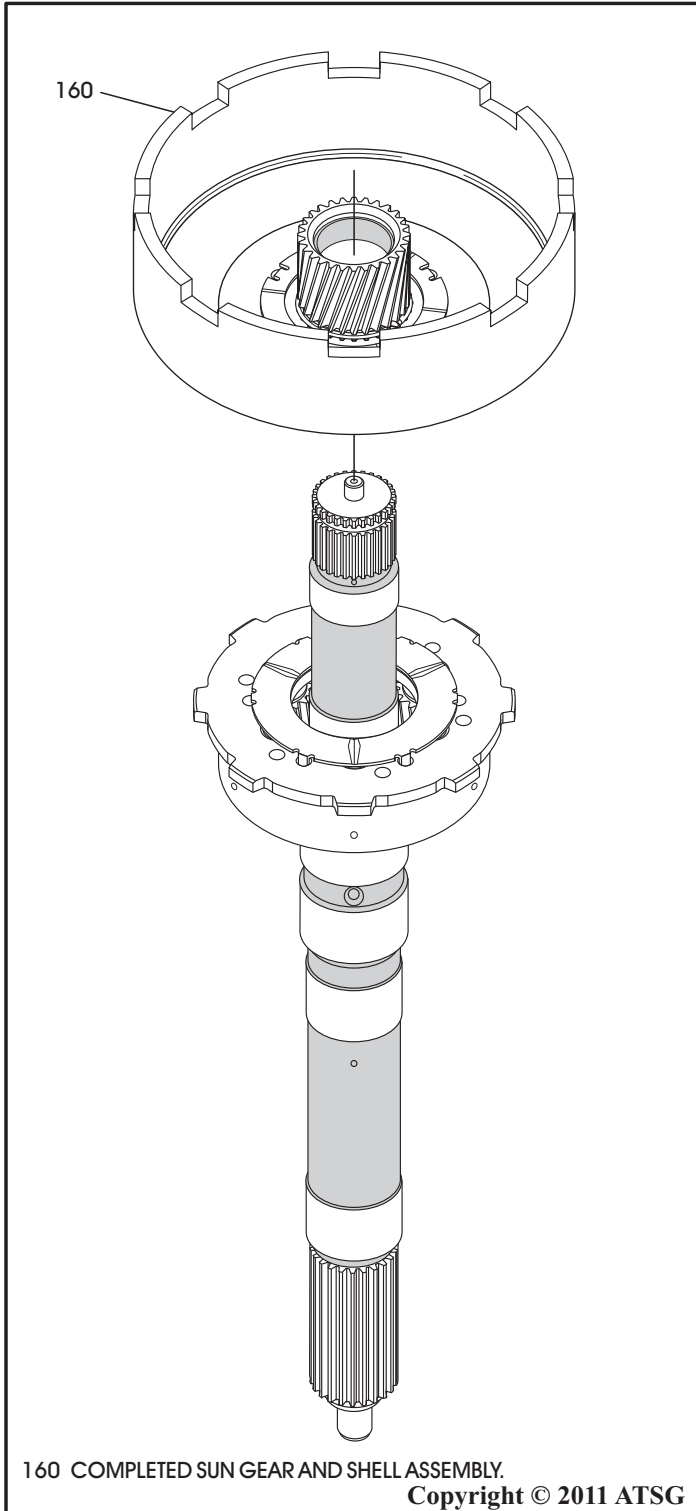

Figure 142
- 20. Install completed sun gear and shell assembly, as shown in Figure 142, by rotating into position.